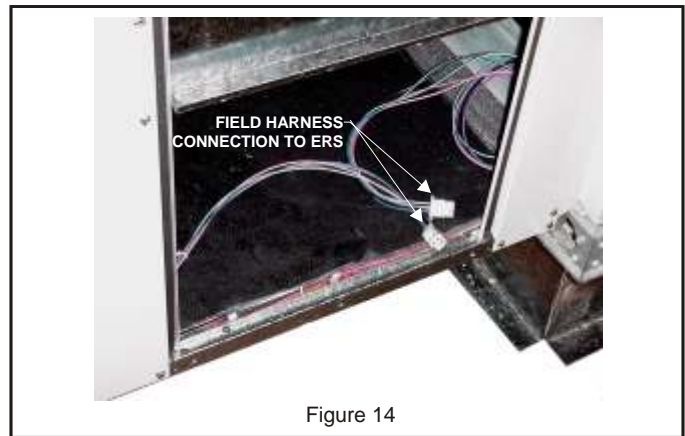

Figure 14
8. Remove the right front (rooftop unit side) access panel and locate the field wiring harness that was previously routed into the return air of the rooftop unit. Plug the field wiring harness into the connector located at the bottom of the access door inside the ERS. **See Figure 14 and Figure 15.**